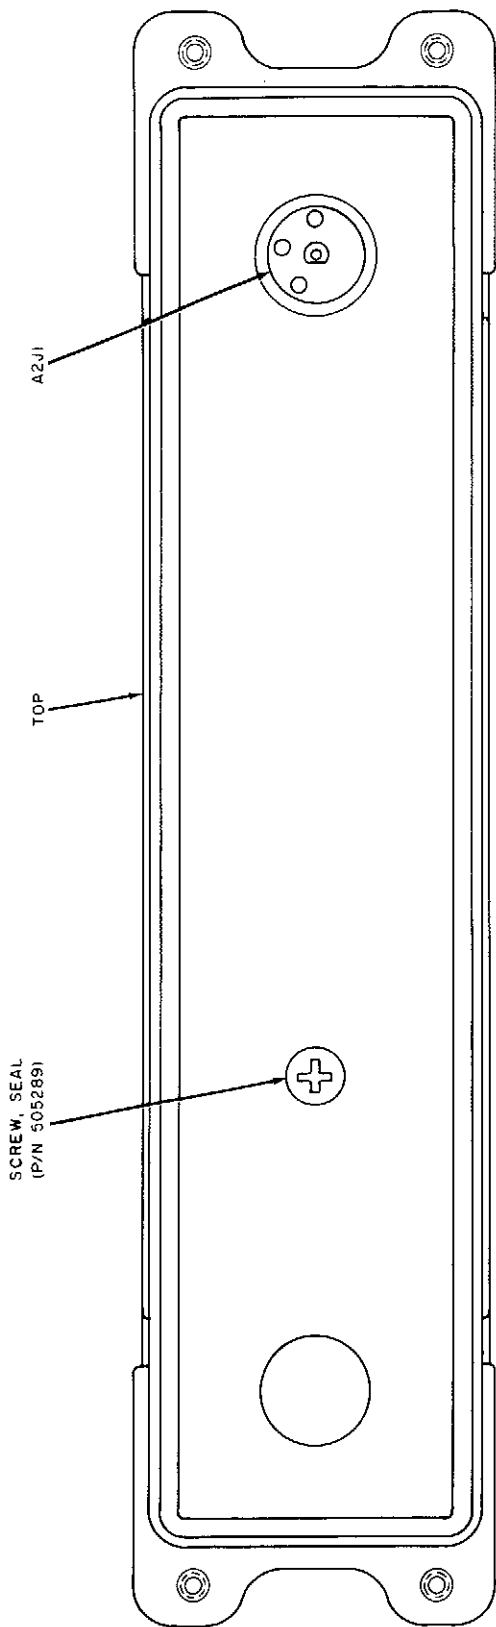

Figure 5-1. Screw, Seal location on the AM-4306/GRC case.
- (1) Place the POWER switch knob on the shaft so the indicator portion is at the OFF position.
- (2) Replace the knob center screw and tighten securely.
h. The Screw, Seal (Part No. SM-B-505289) is located on the rear of the AM-4306/GRC case (fig. 5-1).